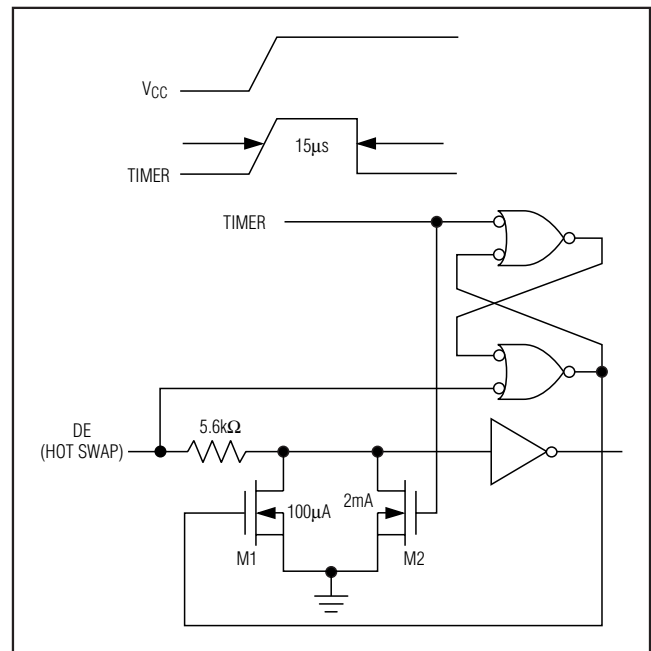

Figure 10. Simplified Structure of the Driver Enable Pin (DE)
At the driver-enable input (DE), there are two NMOS devices, M1 and M2 (Figure 10). When  $V_{CC}$  ramps from zero, an internal  $15\mu\text{s}$  timer turns on M2 and sets the SR latch, which also turns on M1. Transistors M2, a  $2\text{mA}$  current sink, and M1, a  $100\mu\text{A}$  current sink, pull DE to GND through a  $5.6\text{k}\Omega$  resistor. M2 pulls DE to the disabled state against an external parasitic capacitance up to  $100\text{pF}$  that may drive DE high. After  $15\mu\text{s}$ , the timer deactivates M2 while M1 remains on, holding DE low against three-state leakage currents that may drive DE high. M1 remains on until an external current source overcomes the required input current. At this time, the SR latch resets M1 and turns off. When M1 turns off, DE reverts to a standard, high-impedance CMOS input. Whenever  $V_{CC}$  drops below  $1\text{V}$ , the input is reset.